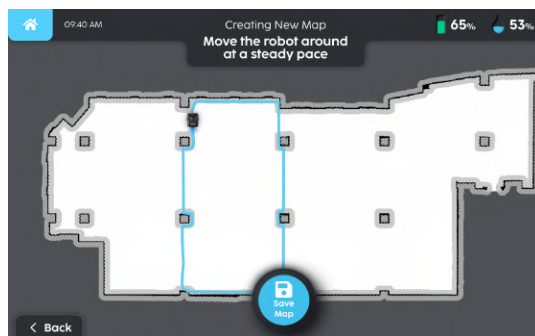

FIGURE 6-20
3. Once you are done, click 'Save Map' (**Fig. 6-20**).